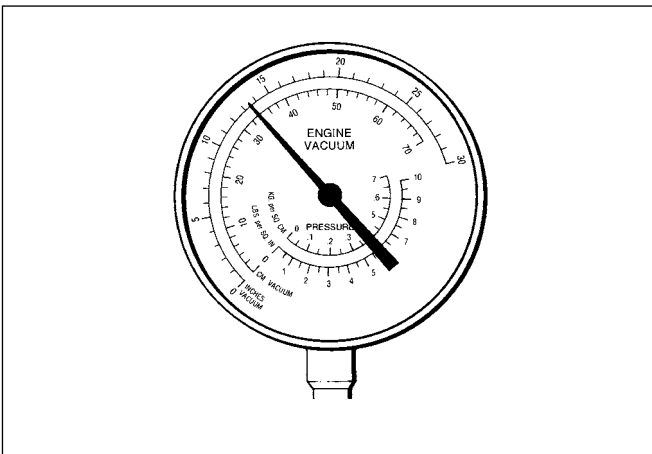

Fig. 1-7. Internal leakage or late timing. Needle steady, low reading.
- A steady reading 3 to 9 inches below normal indicates internal leakage around the piston rings, late ignition timing, or intake manifold leakage, figure 1-7